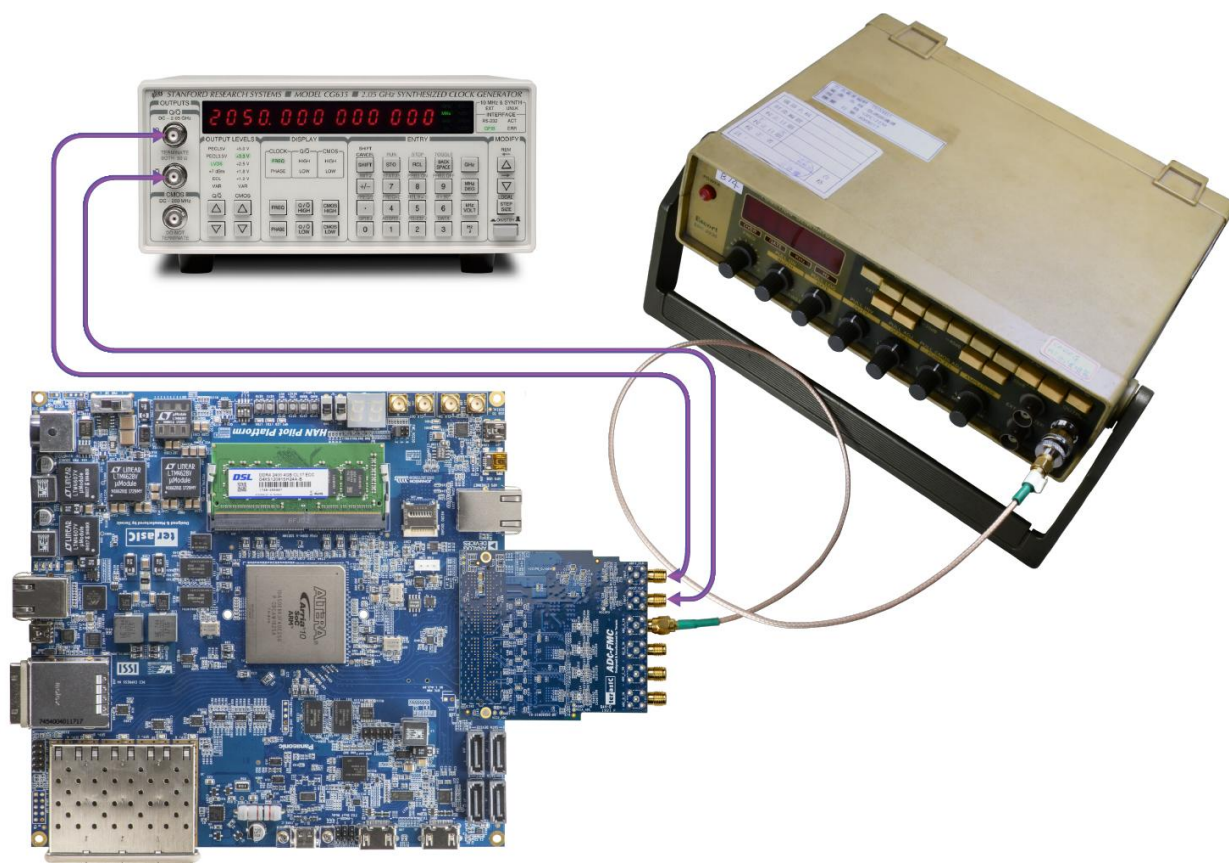

Figure 4-9 Hardware setup of ADC-FMC with HAN
Figure 4-9 shows the demo the setup of ADC-FMC with HAN board. The ADC-FMC should be installed on the FMC expansion header of the HAN. Adjust the VADJ of MFC connector to be 1.8V.
2. Make sure the ADC-FMC is installed on the HAN as shown in Figure 4-9.